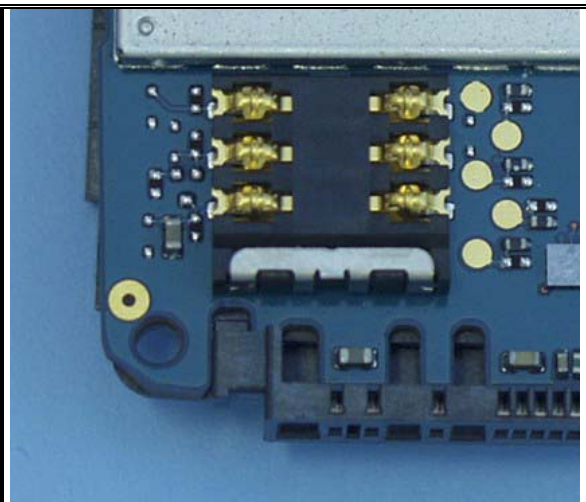

Fig. 11.2
- Check if the SIM-reader (*Fig. 11.2*) is dirty or oxidized. Clean it if necessary.